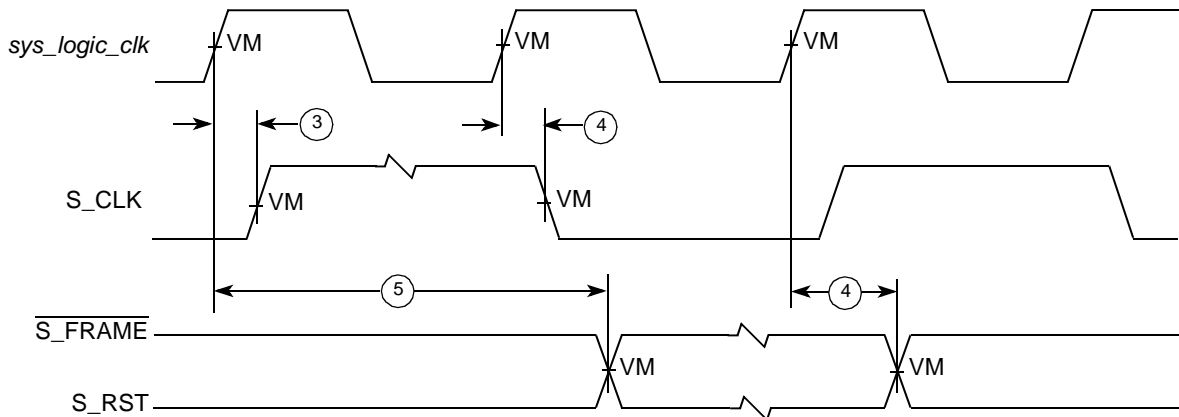
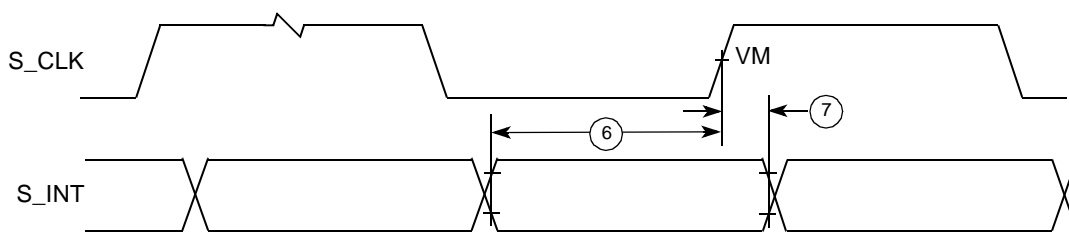

Figure 18. PIC Serial Interrupt Mode Output Timing Diagram
Figure 19. PIC Serial Interrupt Mode Input Timing Diagram
- S_RST, S_FRAME, and S_INT shown in Figure 18 and Figure 19, depict timing relationships to *sys_logic_clk* and S_CLK and do not describe functional relationships between S_RST, S_FRAME, and S_INT. The *MPC8245 Integrated Processor Reference Manual* describes the functional relationships between these signals.